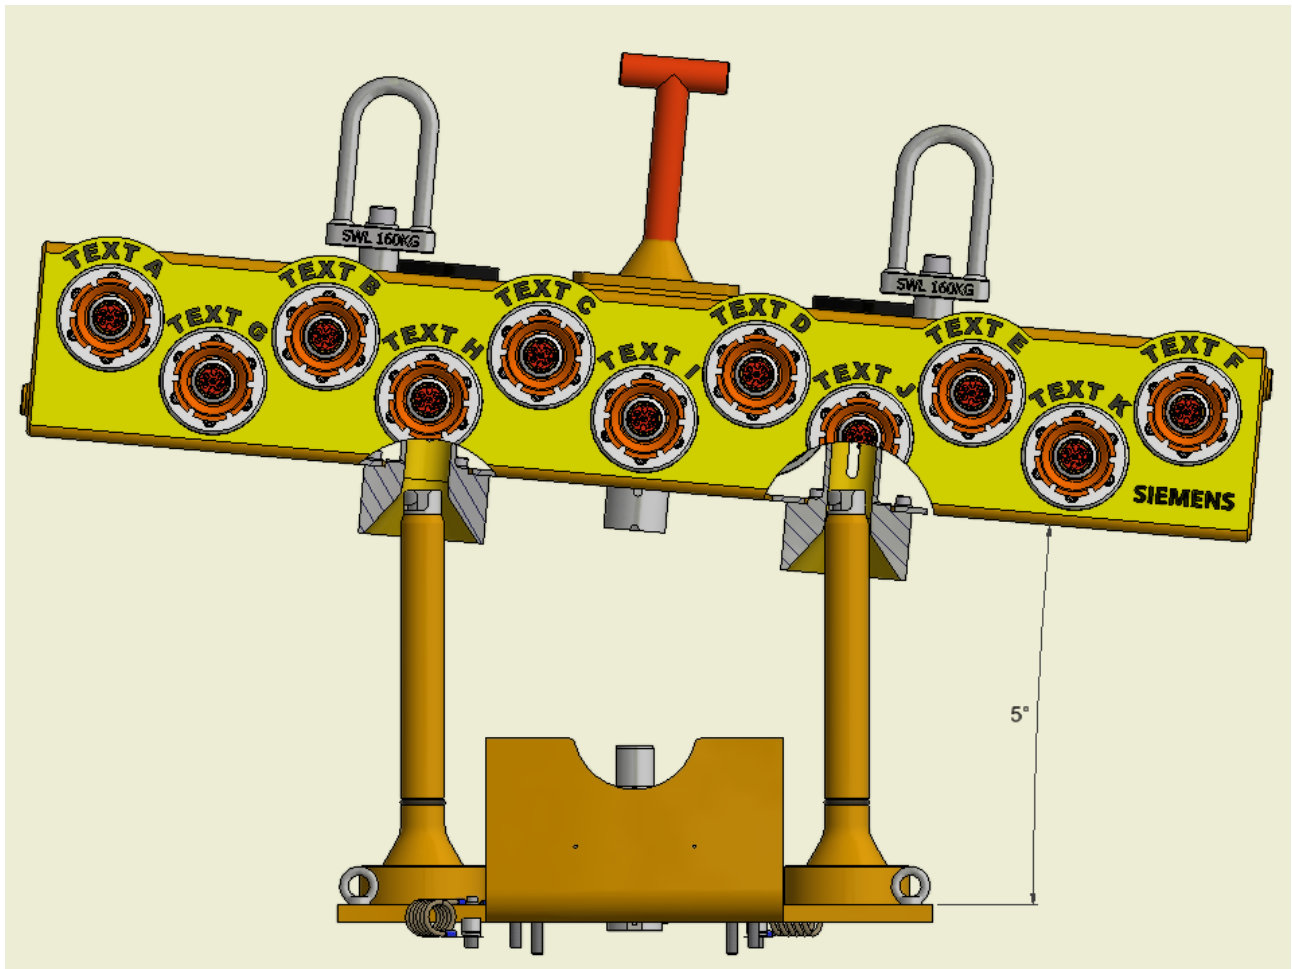
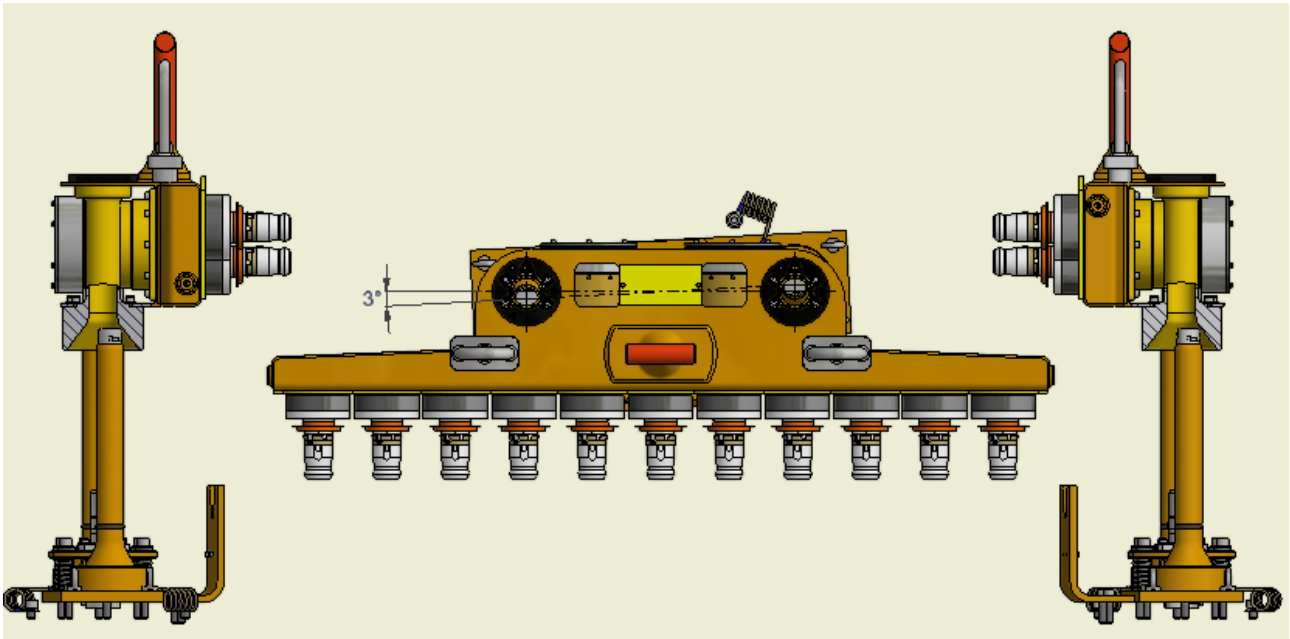

Fig.4 Misalignment 5° above the horizontal plane (Partial section showing engagement)
Fig.6 Misalignment 3° between centerlines of both posts
- 11.4 To locate / land on both guide posts, the REDU box must be no more than +5 degrees above the horizontal plane and +/- 5 degrees from the vertical plane and within +/- 3 degrees between the center-lines of the guide posts (see Fig4 to Fig6).